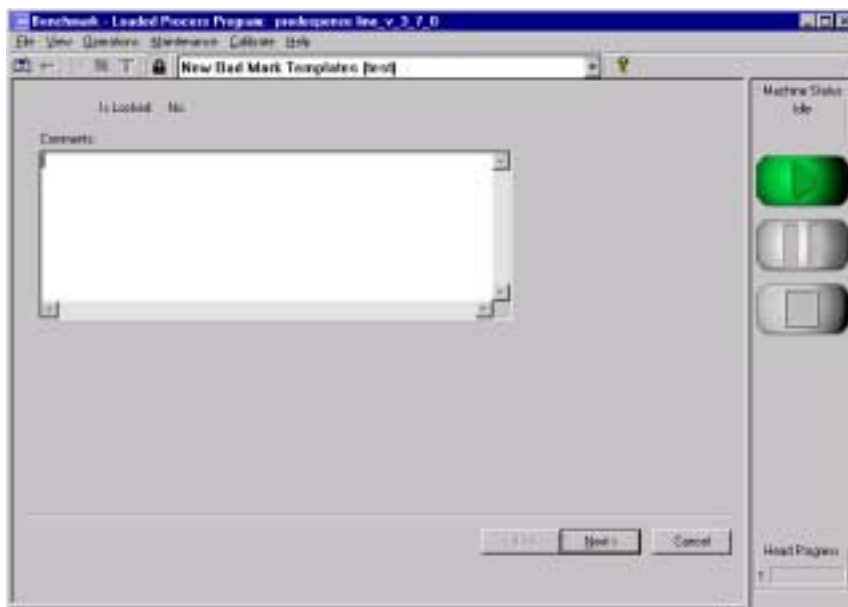

Figure 10-5
- The Bad Mark Template Comment screen appears. See Figure 10-5.